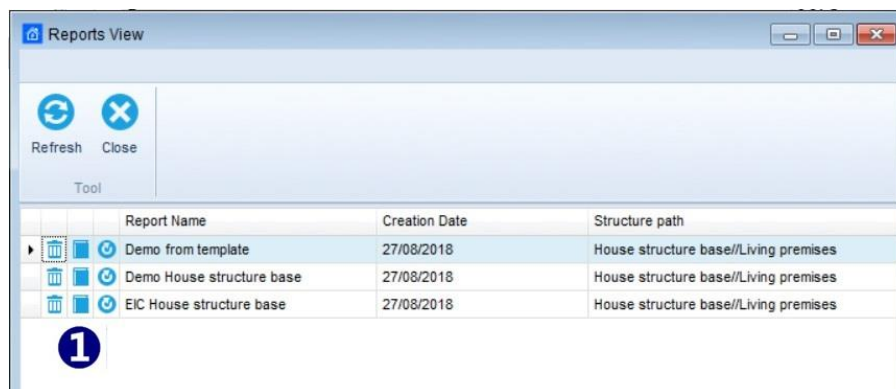

Figure 11.1: Manage reports window
• **Manage** : Clicking on the icon opens a list of existing reports (**Figure 11.1**) for managing. Each report can be opened for editing, deleted, or re-created (❶):